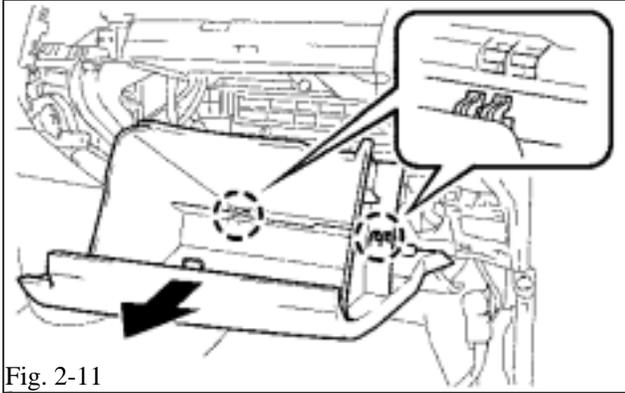

Fig. 2-11
- (2) Open the door until it is horizontal.
- (3) Pull the glove box door toward the rear of the vehicle to detach the two (2) hinges and remove the glove box door. (Fig. 2-11)